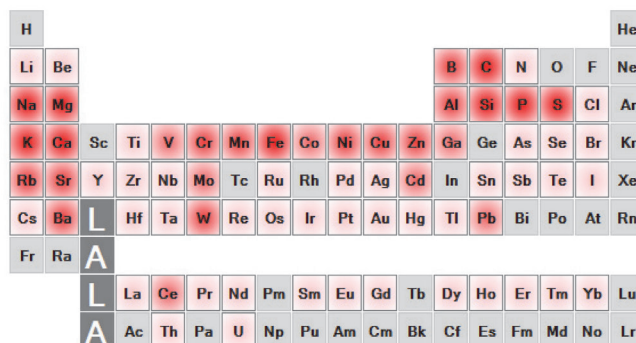

Figure 1. Periodic table heat map view of ICP-MS IntelliQuant data acquired for dark chocolate.
IntelliQuant data can be viewed in a table of results or as a periodic table heat map. The periodic table view gives an easily interpreted display of the concentration ranges of all elements in each sample; darker colors indicate higher concentrations. Figure 1 shows the heat map for a dark chocolate sample analyzed using an Agilent 7800 ICP-MS (2).